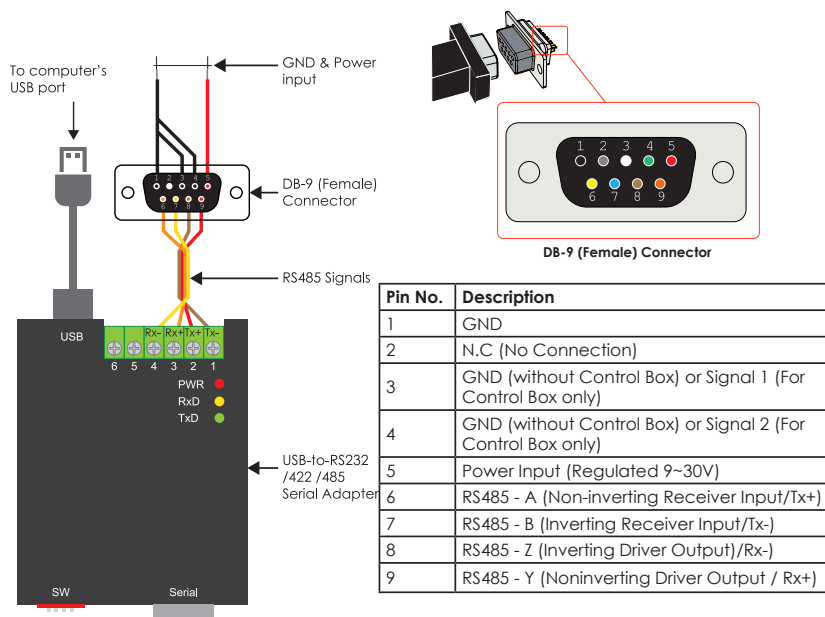

Figure 14. Constructed custom cable and pinout of the DB9 (Female) connector
1. Prepare the custom cable. The constructed custom cable and the pinout of the DB9 (Female) connector is shown in Figure 14.
2. Connect the custom cable with sensor cord and converter as in following connection pinout illustrated in Figure 14.